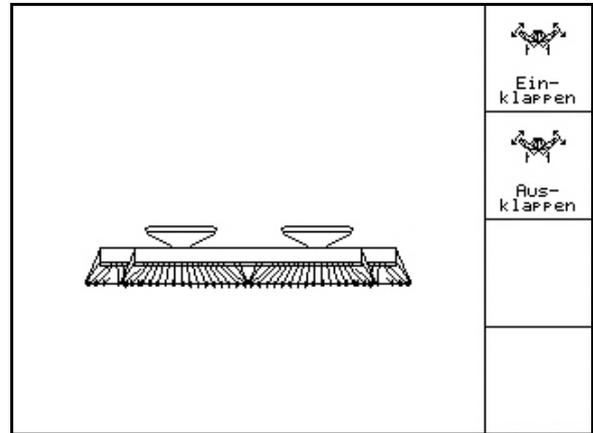

Fig. 57
-  Change to Folding submenu (Fig. 57).